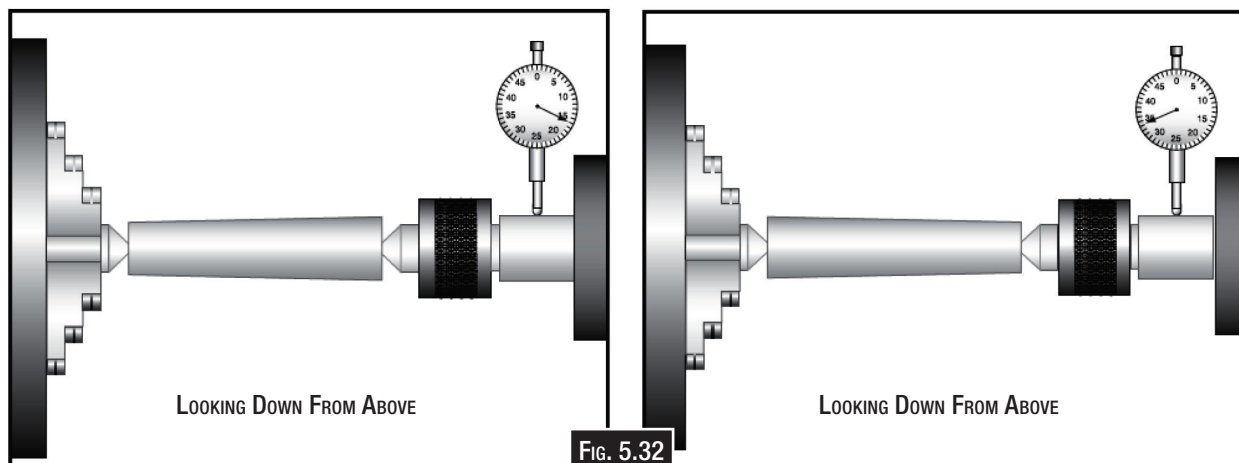

FIG. 5.32
4. Attach a lathe dog to the chuck bar stock from step 1, and mount between the centers (Fig. 5.32).
7. Measure the stock with a micrometer. if the stock is wider at the tailstock end, the tailstock needs to be moved toward the front of the lathe half the amount of the taper. If the stock is thinner, at the tailstock end, the tailstock needs to be moved toward the rear of the lathe by half the amount of the taper (Fig. 5.32)